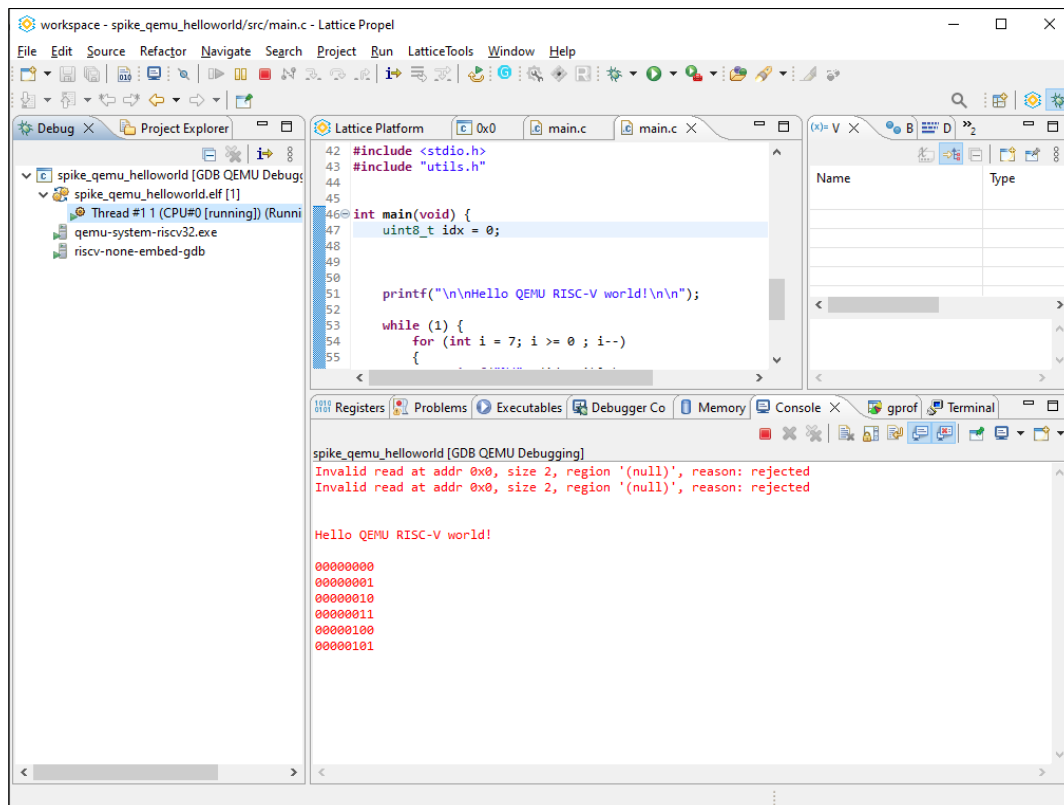

Figure 8.4. QEMU C Project Running Window
5. Click the **Resume** icon  on the toolbar. The Console outputs running logs (Figure 8.4).